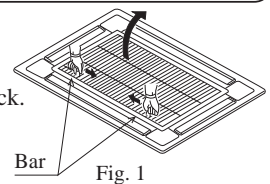

Fig. 1
- Be sure to see the Fig.1, when connecting and removing piping from unit.
- Cover joint of gas piping and insulator ⑦ with seal.
① Push in the bar in inlet grill and lift it up. (Refer to Fig. 1)